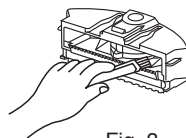

Fig. 3
2. Empty the dust from the dustbin, and then clean the inside with the dust brush supplied (Refer Fig. 3).